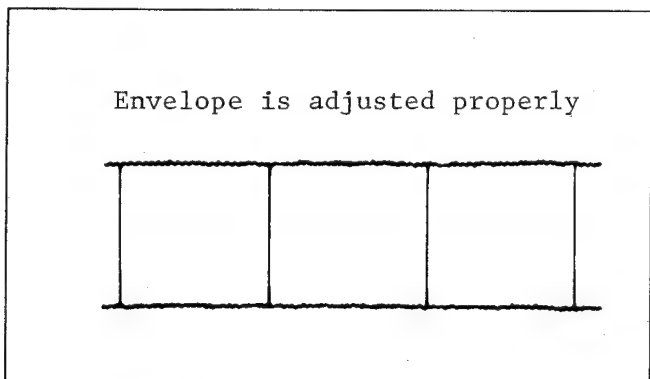

Fig. M50 Envelope Figure - (4)
3. When the scope display is as follows, adjust the height of P2 so that the waveform looks like Fig. M50.
- When the scope display is as follows, adjust the height of P3 so that the waveform looks like Fig. M50.